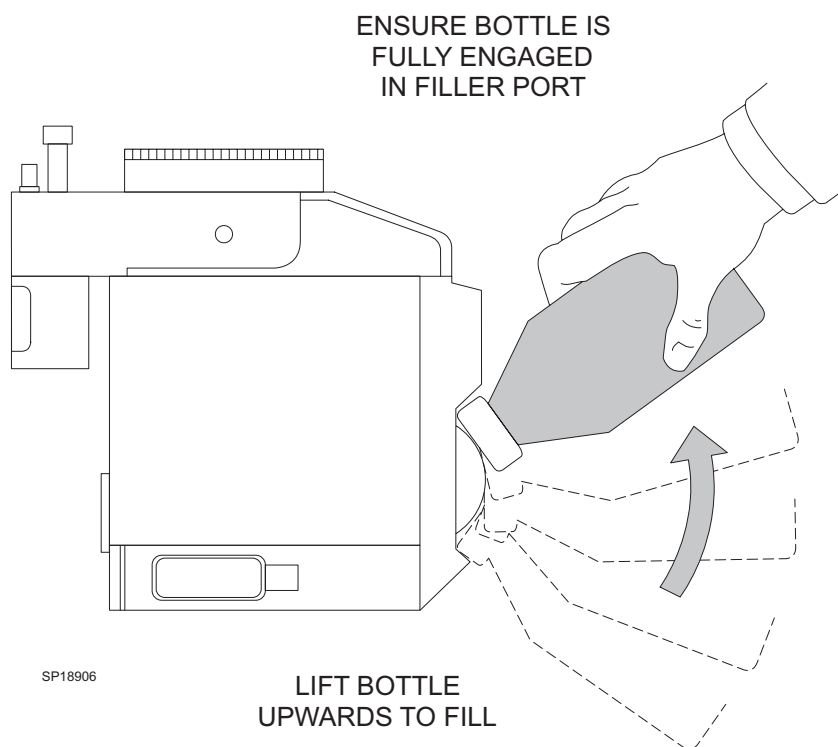

FIGURE 6. Starting Vaporizer Fill
5.5 When the bottle moves easily, lift it upward to lock the bottle onto the filler port as illustrated in Figure 6.